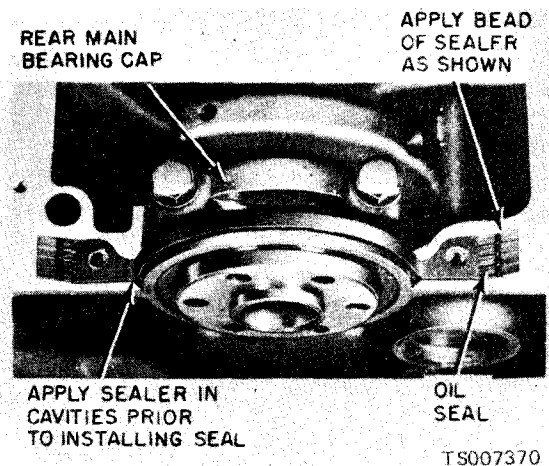
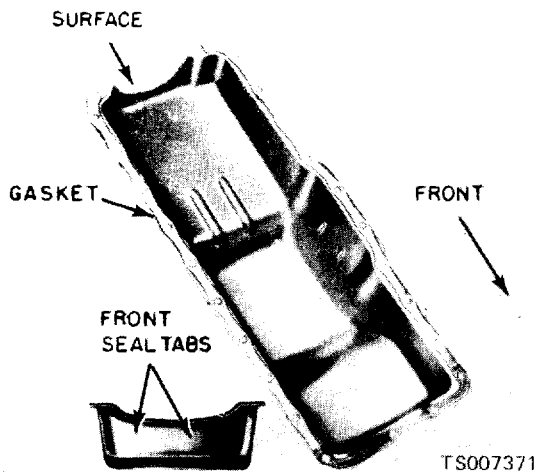

Figure 6-41. Installing Oil Pan Rear Seal.
Figure 6-42. Oil Pan Gaskets and Seal.
(28) Apply oil-resistant sealer in the cavities between the bearing cap and cylinder block (fig. 6-41). Install a new seal in the rear main bearing cap and apply a bead of oil-resistant sealer to the tapered ends of the seal. Install new side gaskets on the oil pan with oil-resistant sealer (fig. 6-42). Position a new oil pan to cylinder front cover seal on the oil pan and install the oil pan.
(6) Install the washer and capscrew. Torque the cap screw to specifications.
(7) Apply oil-resistant sealer to the cavities between the rear main bearing cap and cylinder block (fig. 6-42). Install a new oil pan rear seal in the rear main bearing cap and apply a bead of oil-resistant sealer to the tapered ends of the seal.
(8) Install new side gaskets on the oil pan with oil-resistant sealer (fig. 6-42). Position a new cylinder front cover seal on the oil pan.
(9) Clean and install the oil pump screen and inlet tube assembly. Install the oil pan and related parts following the procedure under Oil Pan Installation. Install the oil level dipstick.